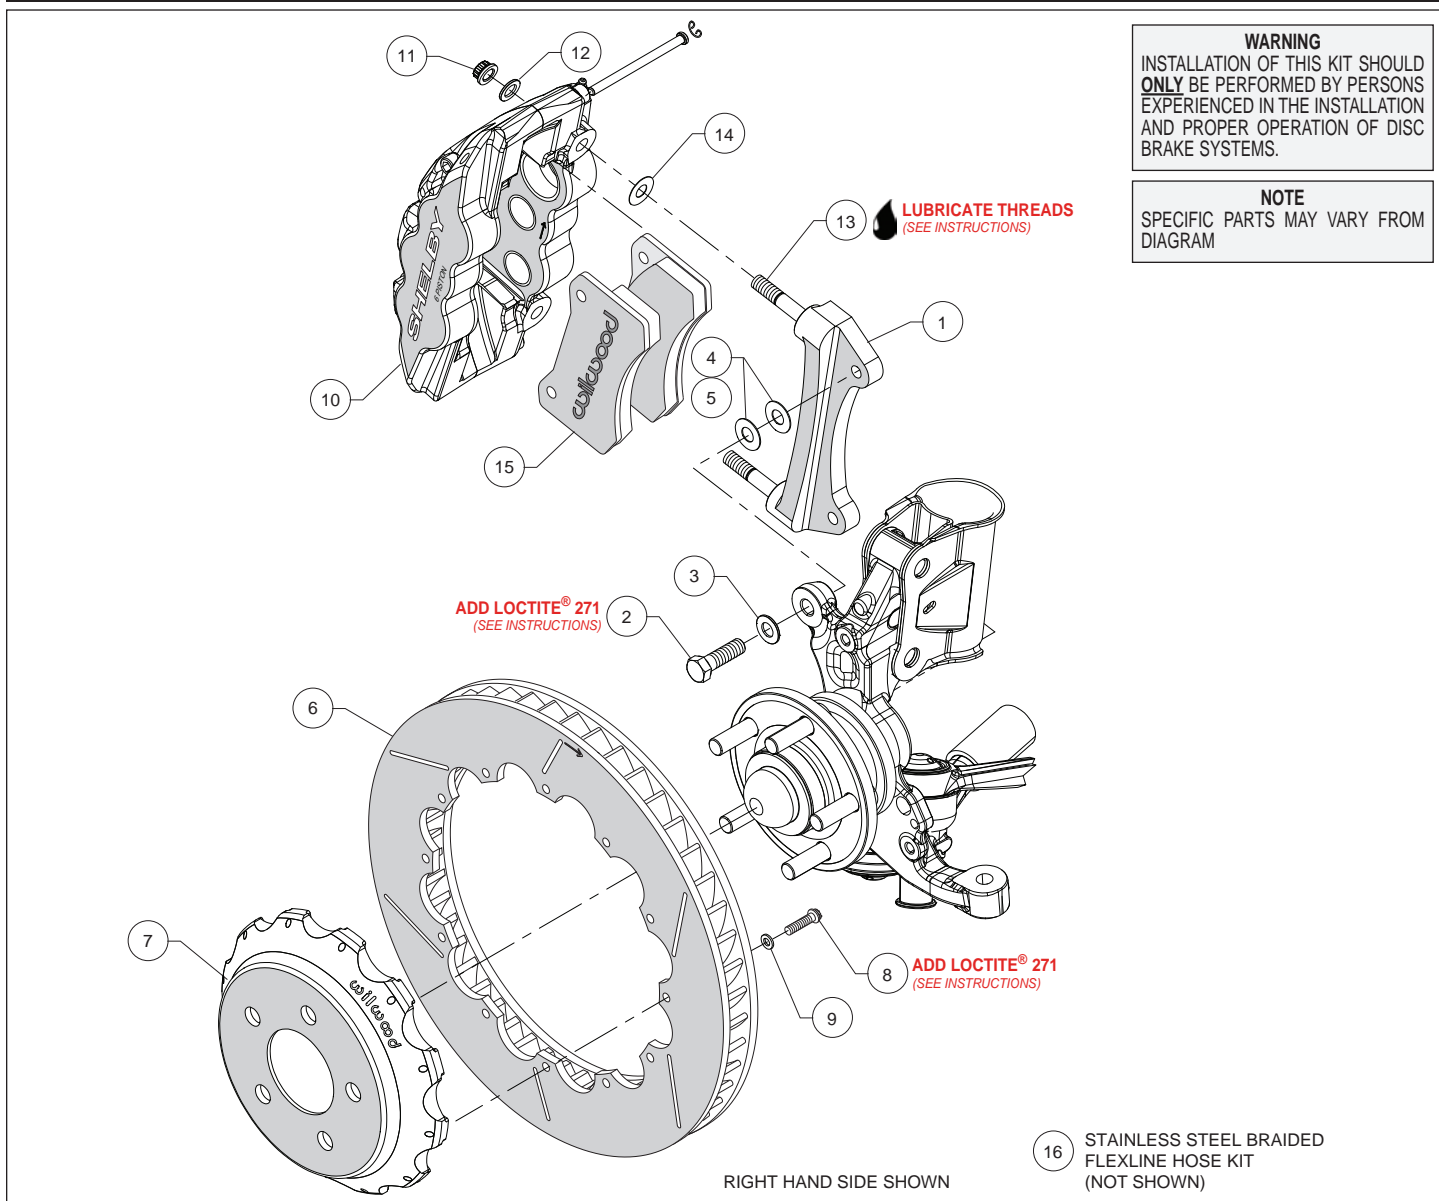
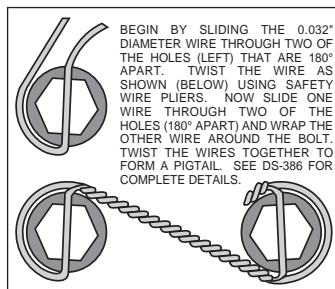

Figure 1. Typical Installation Configuration
Figure 3. Safety Wire Diagram
Assembly Instructions (numbers in parenthesis refer to the parts list and Figure 1 on the preceding pages):
- The caliper mount bracket (1) should initially be installed with clean, dry threads on the mounting bolts. Orient the bracket, as shown in Figure 1 and Photo 1, and install using bolts (2) and washers (3). Initially place two .033" thick shims (4) on each bolt between the bracket and upright, Figure 1. Temporarily tighten the mounting bolts. **NOTE:** *The bracket must fit squarely against the mount bosses on the upright.* Inspect for interference from casting irregularities, machining ridges, burrs, etc. Later, after the caliper alignment has been checked, the mount bolts will be secured using red *Loctite*[®] 271.
- Orient the rotor (6) and the hat (7) as shown in Figure 1 and Photo 2. Attach rotor to hat using bolts (8), and washers (9), Figure 1. Using an alternating sequence, apply red *Loctite*[®] 271 to the threads, and torque to 155 **in-lbs**. For an added measure of security, the bolts may be safety wired using standard 0.032 inch diameter stainless steel safety wire as shown in Figure 3. Refer to Wilwood's data sheet DS-386 (available at www.wilwood.com/Pdf/DataSheets/ds386.pdf) for complete safety wire installation instructions.
- NOTE:** *This kit contains distinct right and left hand calipers that must be mounted in a specific direction, as described below.* Lubricate the caliper mounting studs (13) with lightweight oil. Initially place one .030" thick shim (14) on each stud between the caliper and the bracket, as shown in Figure 1 and Photo 4. Mount the caliper (10) onto the bracket (1) using lock nuts (11) and washers (12), Figure 1. Temporarily tighten the lock nuts. Ensure that the caliper is mounted so the largest pistons are at the rotor exit end of the caliper, in relation to the direction of the rotor. View the rotor through the top opening of the caliper. The rotor should be centered in the caliper, Photo 5. If not, adjust by adding or subtracting shims (4 and/or 5) between the bracket and the upright. Always use the same amount of shims on each of the two mounting bolts. Once the caliper alignment is correct, remove the bracket mounting bolts one at a time, apply red *Loctite*[®] 271 to the threads, and torque to 60 ft-lbs.
- Remove the two pad retaining pins from the caliper (10) by carefully popping out the pin retaining clips and sliding out the pins. Insert the brake pads (15) into the caliper from the bottom, Figure 1 and Photo 6. With the friction material facing the rotor, secure the brake pads in place with the pad retaining pins and clips, Photo 7. Reinstall the caliper onto the caliper mounting bracket and temporarily tighten the lock nuts. Check that the top of the brake pad is flush with the outside diameter of the rotor, Photo 8. If not, adjust by adding or subtracting shims (14) between the caliper and the bracket. After the caliper pad height is set, torque the caliper lock nuts (11) to 47 ft-lb.